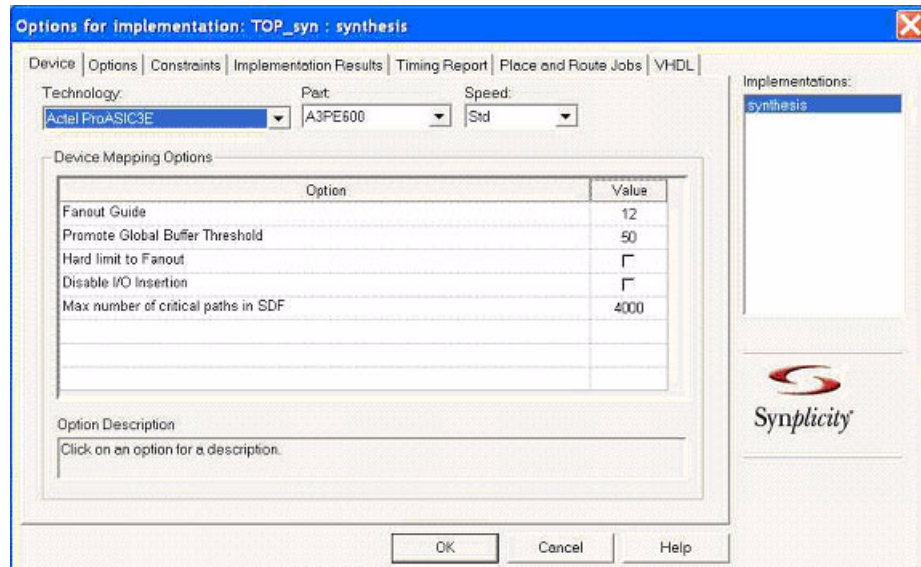
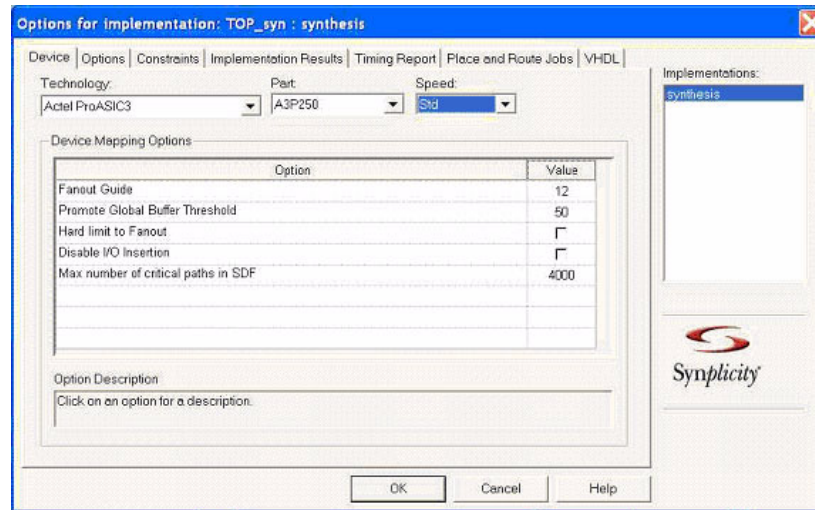

Figure 7-26. Options for Implementation Dialog Box-A3PE600
Figure 7-27. Options for Implementation Dialog Box-A3P250
2. From the **Project** menu, select **Implementation Options**. This displays the Options for the Implementation dialog box, as shown in Figure 7-26 for A3PE600 and Figure 7-27 for A3P250.